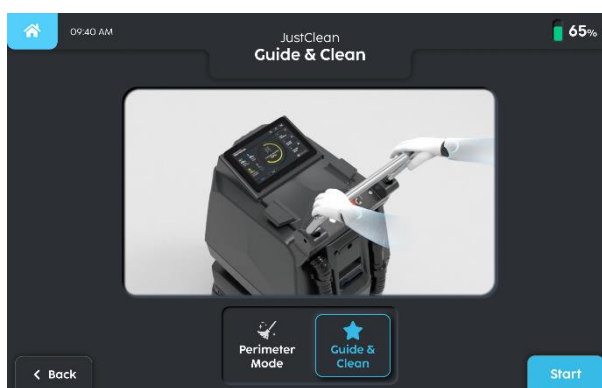

Fig. 2
2. Selecteer 'Guide & Clean Mode (Gids & reinigingsmodus)' of 'Perimeter Mode (Omtrekmodus)' (fig. 2 of fig. 10).